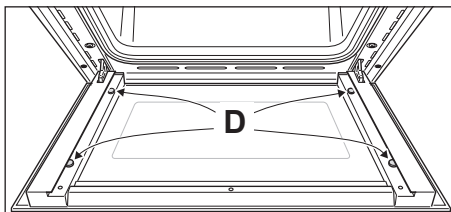

Fig. 8.12a
**IMPORTANT:** It is advisable, while removing the glass, to keep pressed in position the four rubber pads "D" (fig. 8.12a), by a finger, to avoid breakage or slippage of the rubber pads themselves.
- Check that the four rubber pads are in place ("D" in fig. 8.12a).